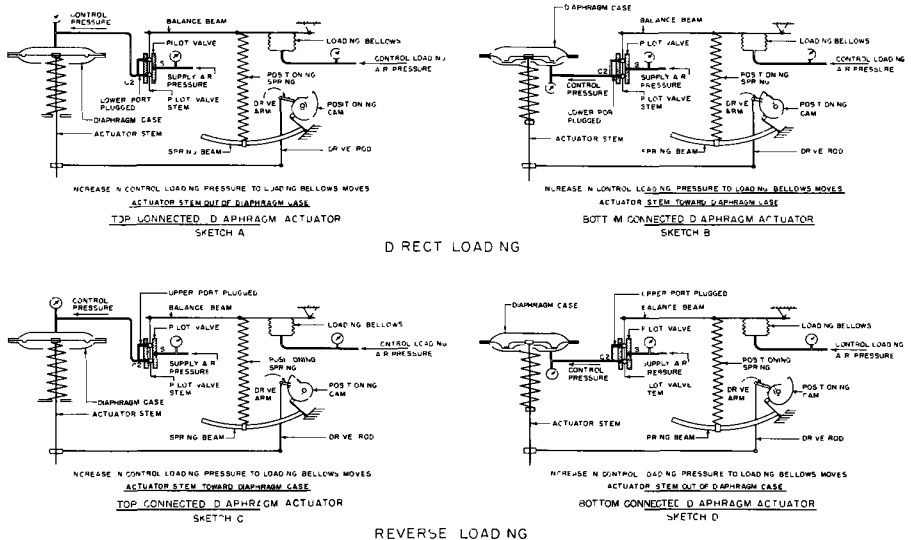

FIGURE 4 - Application of Positioner to Diaphragm Actuators
Refer to Sketch A in Figure 4. When the control system indicates that the Control Valve should be opened, the force exerted on the balance beam by the loading bellows increases as a result of the increase in control loading pressure. Movement of the beam raises the pilot Valve stem, opening the upper valve port to full supply pressure, increasing the control air pressure applied to the diaphragm, and causing the actuator stem to move into the valve
1. **TOP CONNECTED DIAPHRAGM ACTUATOR** (Figure 4, Sketch A). An increase in control loading pressure to the loading bellows raises the pilot stem, increases control pressure to the Diaphragm Actuator, moves the actuator stem into the Valve body, lowers the Positioner drive arm, and turns the positioning cam clockwise to increase tension on the positioning spring until the forces exerted by the bellows and spring are at balance.
2. **BOTTOM CONNECTED DIAPHRAGM ACTUATOR** (Figure 4, Sketch B). An increase in control loading pressure to the loading bellows raises the pilot stem, increases control pressure to the Diaphragm Actuator, moves the actuator stem out of the Valve body, raises the
1. **TOP CONNECTED DIAPHRAGM ACTUATOR** (Figure 4, Sketch C). An increase in control loading pressure to the loading bellows raises the pilot stem, decreases control pressure to the Diaphragm Actuator, moves the Actuator stem out of the Valve body, raises the Positioner drive arm, and turns the positioning cam counterclockwise to increase the tension of the positioning spring until the forces exerted by the bellows and spring are at balance.
2. **BOTTOM CONNECTED DIAPHRAGM ACTUATOR** (Figure 4, Sketch D). An increase in control loading pressure to the loading bellows raises the pilot stem, decreases control pressure to the Diaphragm Actuator, moves the Actuator stem into the Valve body, lowers the Positioner drive arm, and turns the positioning spring until the forces exerted by the bellows and spring are at balance.
The adjustments below are based on a direct loading, top connected Diaphragm Actuator and inner valve which opens as the Valve stem moves into the Valve body as shown in Figure 4. Sketch A